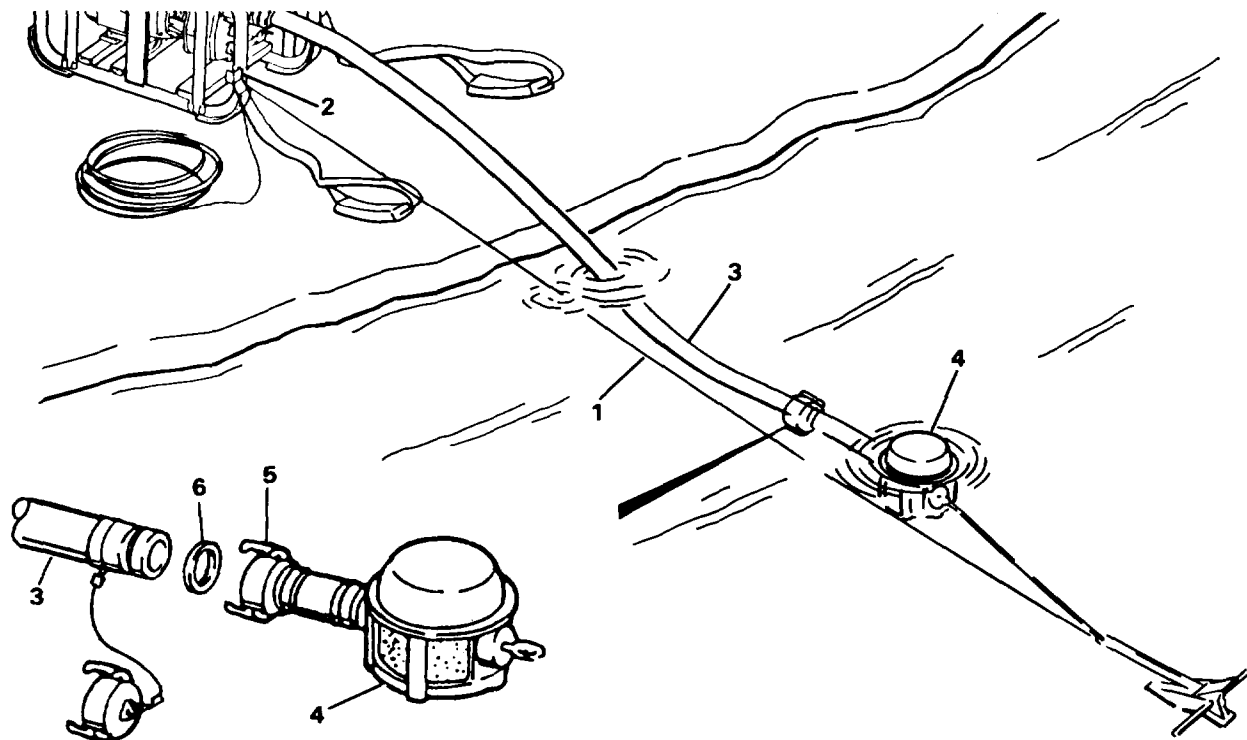

Figure 3-2. Intake Strainer
- a. Keep the anchor rope (1, Figure 3-2) tied to the raw water pump frame (2).
- b. One crew member pulls on the anchor rope while the other two pull on the suction hose (3) to retrieve the strainer (4).